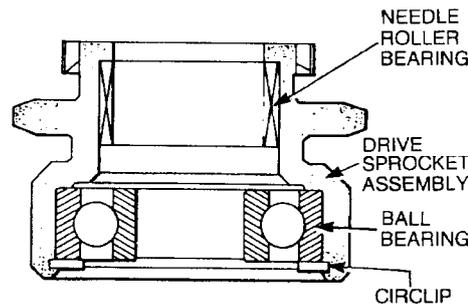

Figure 199 Removing the Drive Sprocket Bearings
- k. Remove the internal circlip retaining the ball bearing in the drive sprocket and, using a suitable arbor, press out the ball bearing and needle roller bearing (Figure 199).